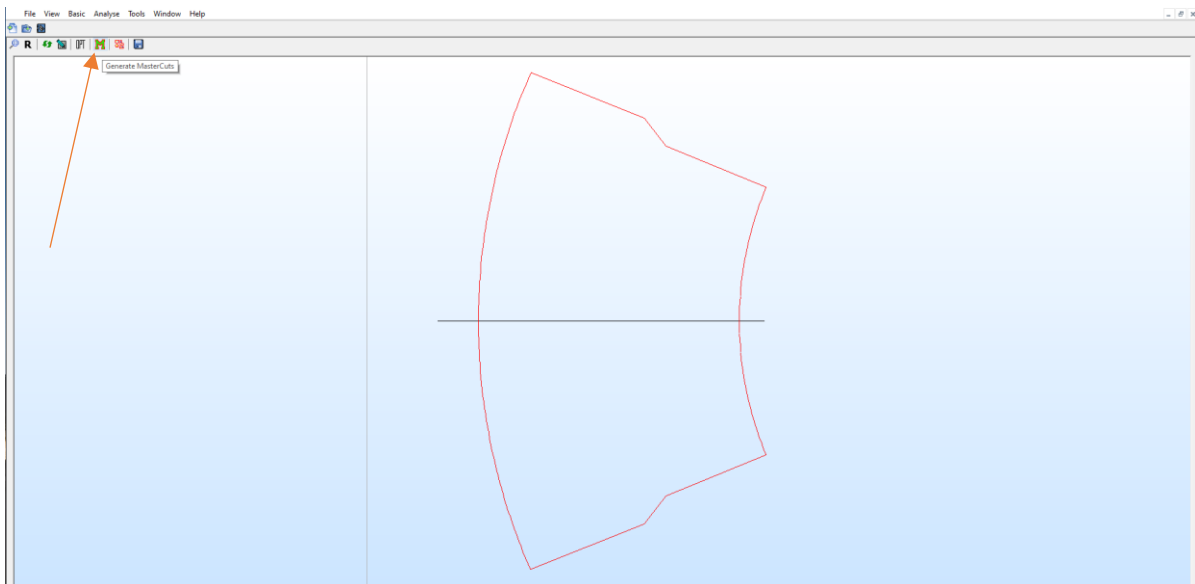

Figure 90
1. To generate mastercuts and switch to the MasterCut workspace click on the MasterCut button  on the Main Toolbar (Figure 90).